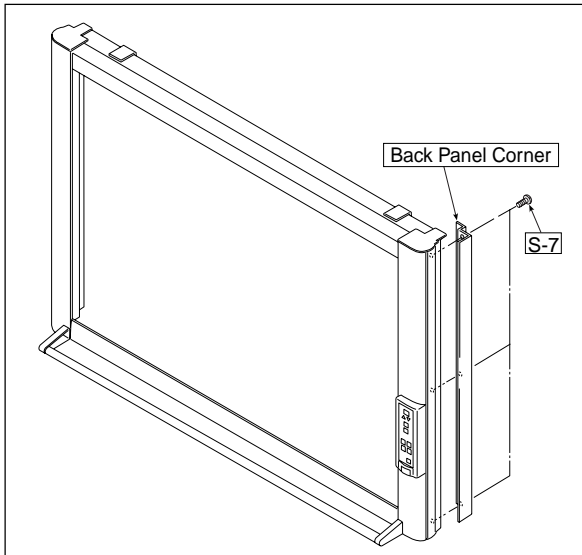

Fig. 1
1) Remove the Back Panel. (See Figs. 1 and 2.)
1. Remove the “S-7” screws shown in Fig. 1 and then remove the Back Panel Corner.